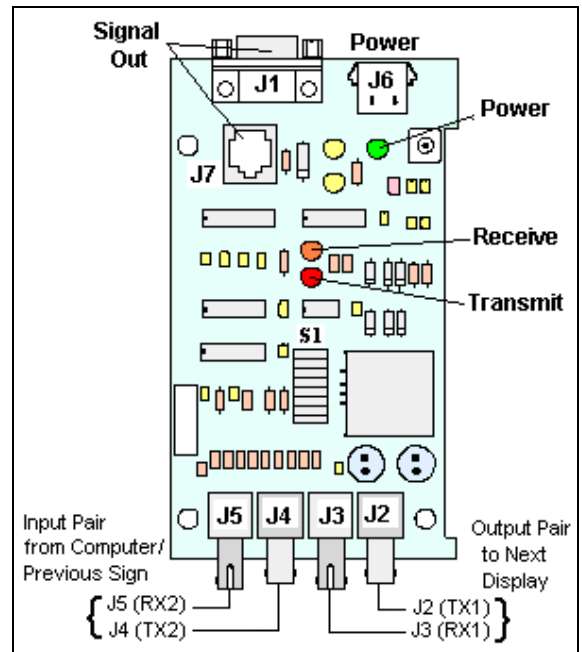

Figure 41: Fiber Optic Board
2. Disconnect and label the power and signal connections (refer to **Figure 41** on the right for disconnection of wires).